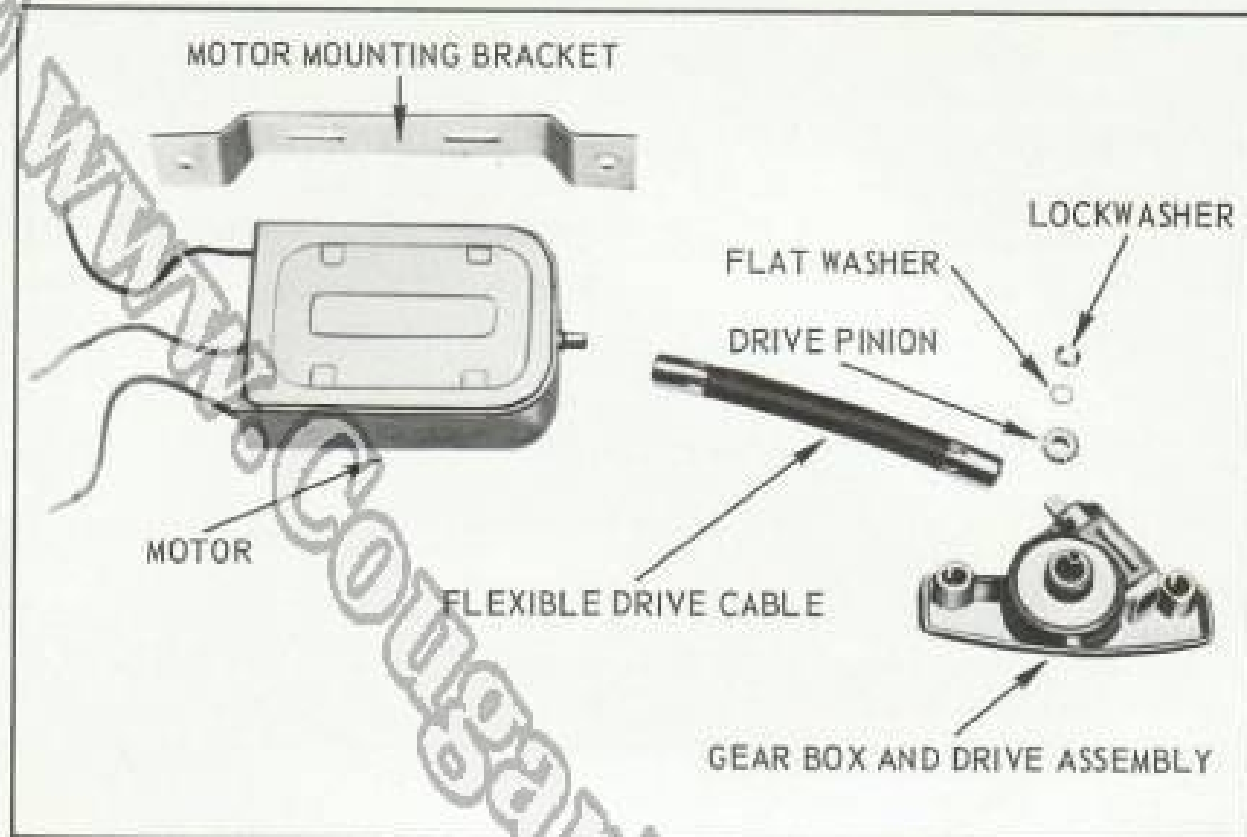

Fig. 13 – Sun Roof Panel Motor, Gear Box and Drive Assembly and Associated Parts
NOTE: Refer to figures 13 and 14 for disassembly views of the major components, which should be used when performing the following procedures:
8. When replacing the motor, transfer bracket and dampener vibration pad from the old to the new motor. (See figure 13).
NOTE: If only necessary to replace the drive pinion, remove lockwasher, flat washer and drive pinion. (Refer to figures 13 and 14). Install replacement drive pinion, flat washer and lock washer. Reinstall above parts and check operation.